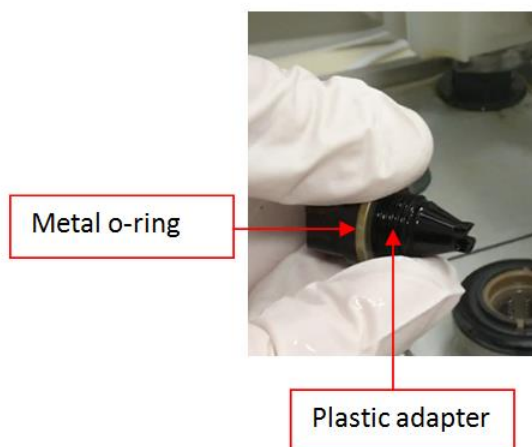

Figure 9: Installing the metal O-ring on the plastic gas ballast adapter
- 2) Attach the metal O-ring to the black plastic adapter and the black O-ring on the metal adapter. See Figure 9.